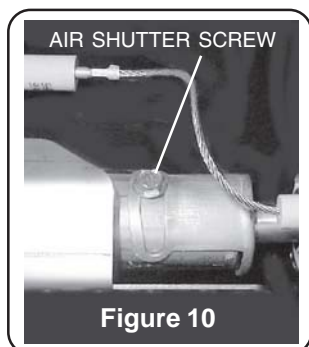

Figure 10
b. First remove the Backburner cover, then loosen the Air Shutter screw (See Fig. 10). It may be necessary to use pliers to turn the Air Shutter. Light the Backburner. With the control knob on "HIGH" adjust the Air Shutter to have a blue flame that is not lifting off the Burner (It may also have slightly yellow tips).
5. Depress either the center gas valve knob or the Backburner knob and turn to "HIGH" then immediately press the Spark Generator button (see Figure 10). The Burners should light.
Cooking Grids to the Burners below the Flavor Grid (Figure 10). For Backburners, hold the flame against the perforated material near the Backburner.
REMEMBER: FOR SAFE MANUAL LIGHTING, PLACE A BURNING MATCH OR BUTANE LIGHTER BESIDE THE BURNER - THEN TURN ON THE GAS (Figure 10).